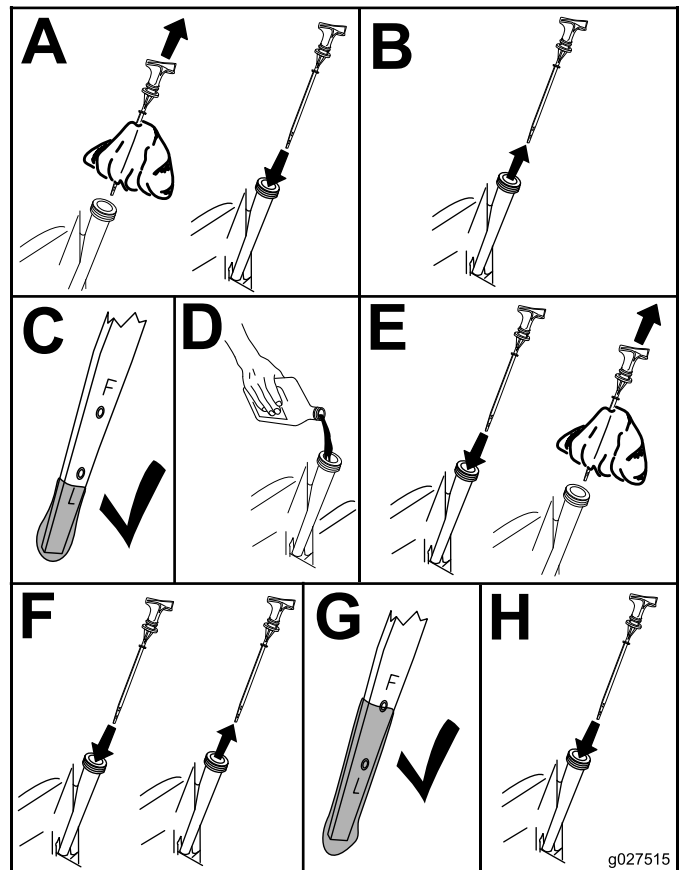

Figure 55
- Check the engine-oil level (Figure 55).